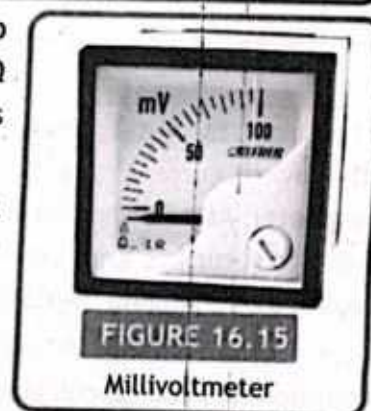

FIGURE 16.15
**Range of voltmeter:** Like ammeters, voltmeters also have different ranges based on its use. For home voltage measurement voltmeter with volt values ranging from 1 V to 500 V is used. Milli-voltmeter (mV) is used for small voltage measurements as shown in figure 16.15.